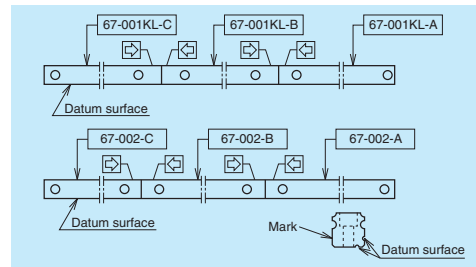

Fig. 10.25
- The rails with butting specification are marked with alphabet (A, B, C ...) and an arrow on the opposite side of the mounting datum surface. Use the alphabets and arrows for assembly order and direction of the rail (**Fig. 10.25**).